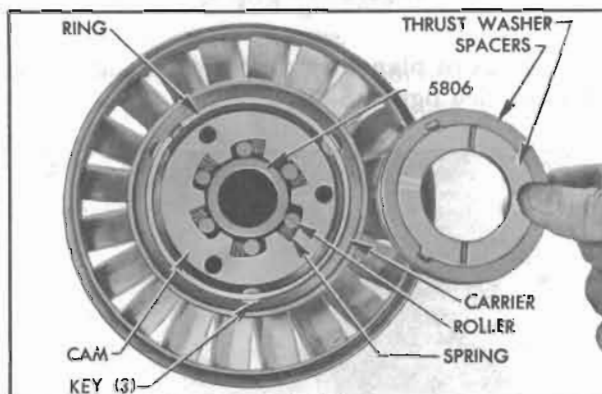

Figure 5-44—Parts in Rear Side of Stator
2. Pry the retaining ring from groove in stator blade rear carrier, and remove free wheel cam and three driving keys. See Figure 5-44.